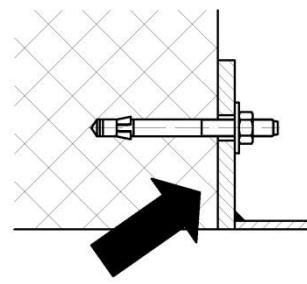

Fig. 5
- When tightening the bolts, the sealant gets squeezed out on both sides of the frame. Smoothen sealant with finger to a clean grout (Fig. 5).